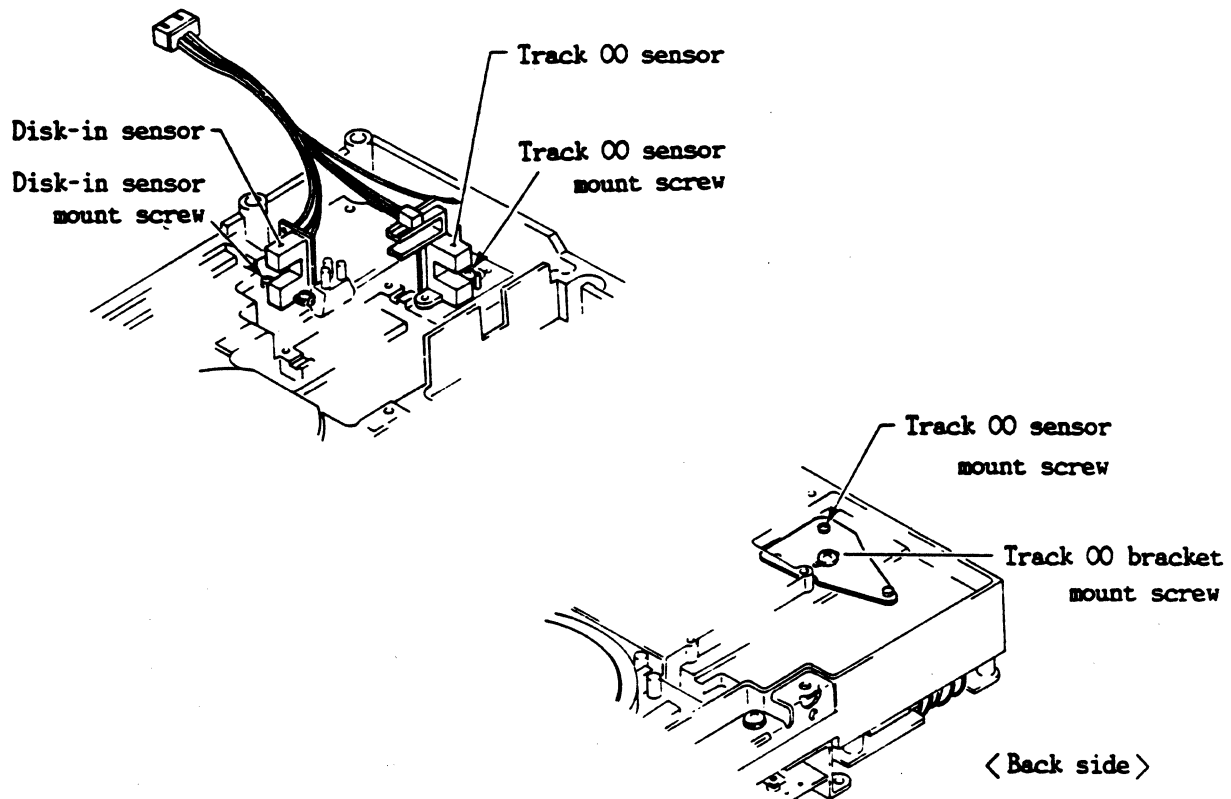

Figure 4-13 Track 00 Sensor Adjustment.
12. Loosen the Track 00 sensor mounting screw and move the sensor backward and forward (refer to Figure 4-13).